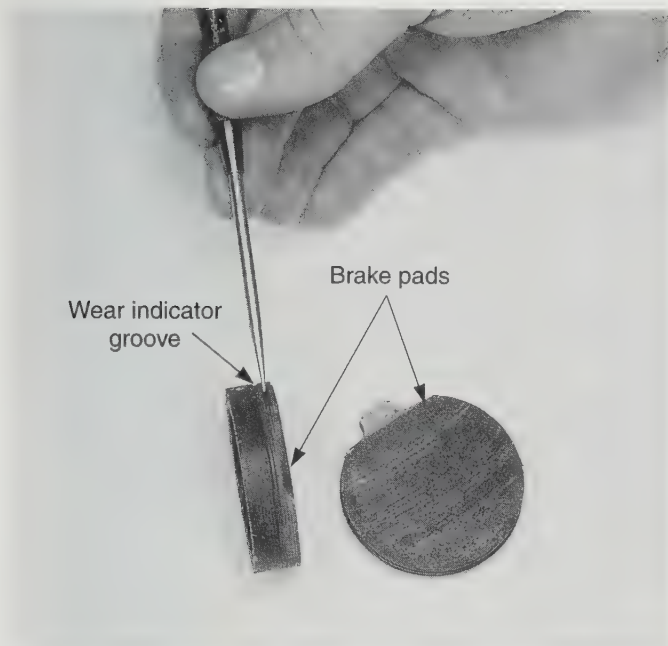

Figure 15-27. Inspect pads for wear and contamination. These pads have wear indicator groove. If worn to the groove, replace the pads.
3. Inspect the pads for wear, oil, grease, or other contamination. The pads shown in **Figure 15-27** have a groove or line wear indicator. If worn to the groove or line, the pads are worn out and must be replaced. If the pads are contaminated in any way, they should also be replaced.